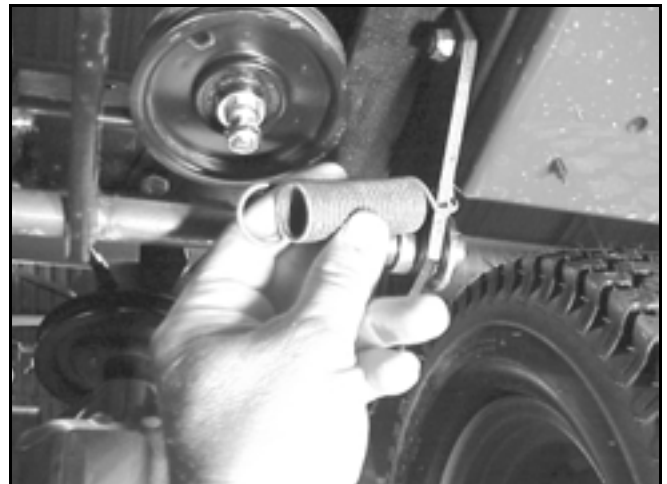

Figure 153
4. Unhook the idler spring at the idler pulley located toward the rear of the tractor (Figure 153). Remove the existing belt from the tractor.